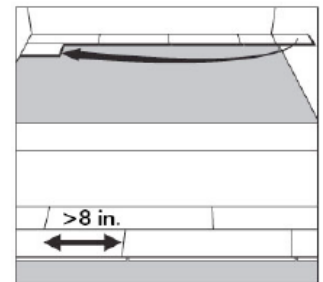

Figure 2
1. Begin the second row with the cut piece from the first row. (Figure 2) If the cut piece is shorter than (20 cm), do not use it. Instead, begin with a new board that is at least 20cm in length and allows 20cm between the end joints on the adjacent planks.